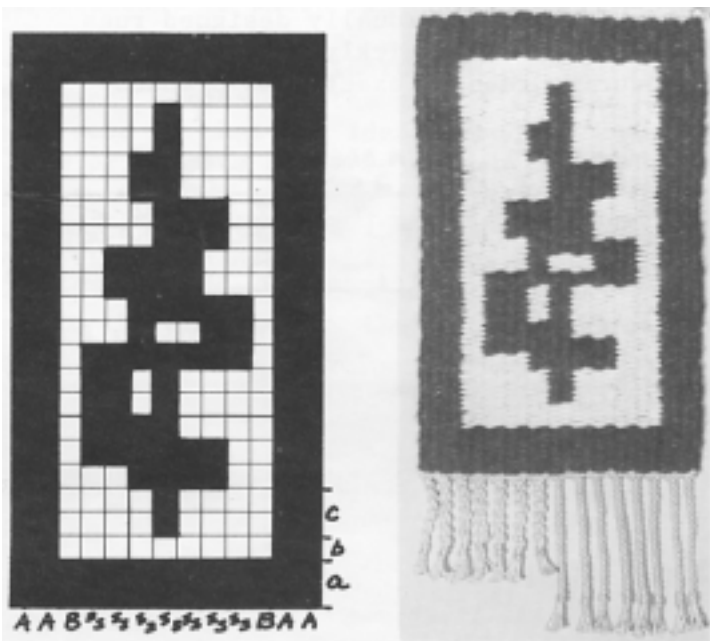

Fig. 3. Design
The two colors that make the design on the face of the rug reverse their positions on the back. Bands of solid colors, (A) on top and (B) on the back, can be woven with treading I, without switching any control-ties. (See Fig. 2) This is convenient for borders at ends of a rug such as the area a in Fig. 3.
Design of Fig. 3. Note the different types of finishes.
Begin the two wefts from opposite sides of the warp and weave $1\frac{1}{2}$ " (38 mm) border of solid color (A) on top and color (B) on the back (Fig. 3, Section a) following the threading sequence I of Fig. 2. Then treadle to weave blocks (Fig. 3, Section b.) using treadling sequence II, Fig. 2. In each 2 passes, one weft lies over or under the other when they are beaten down, making a two-faced weave. One complete row of the weave requires 4 shed changes and 4 passes of weft - (A), (B), (A), (B). This sequence of 4 passes should be completed before switching control of any units.
To change the color in an S. S. unit (Fig. 3, Section c, central unit), pull up the two strings held by the control-tie so they are taut. Then slide the control-tie along the strings until it is snug on top of the other harness. Weave further, changing other tie-ins according to the design, after any sequence of 4 passes.